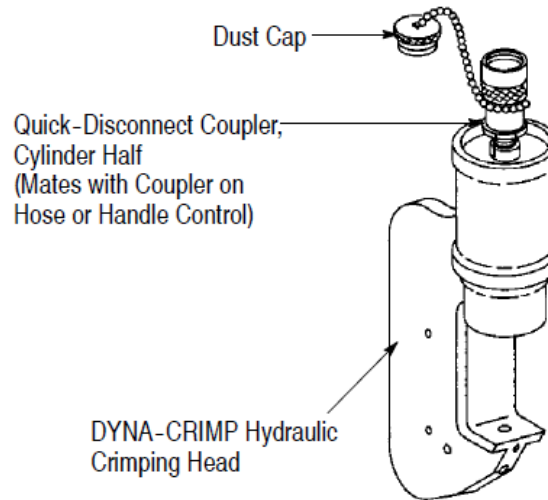

Figure 1
This instruction sheet covers application, inspection and maintenance procedures for DYNA-CRIMP* Crimping Head 69099 shown in Figure 1. The crimping head is used to crimp the terminals and splices specified in Figure 2.
3. Mate both quick-disconnect couplers and tighten the collar of the coupler assembly of the crimping head (see Figure 1).